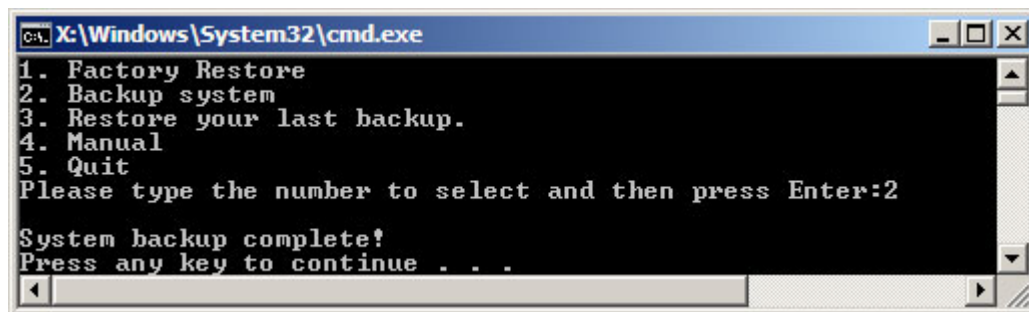

Figure C-38: System Backup Complete Window
Step 3: The screen shown in **Figure C-38** appears when system backup is complete. Press any key to reboot the system.